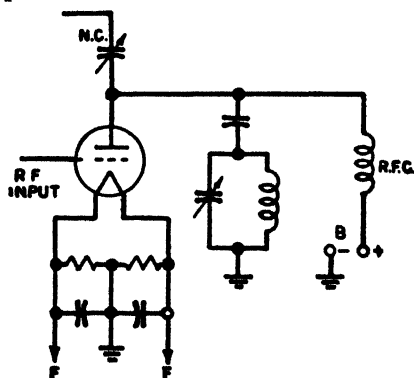

FIG. 4-20.—Simple shunt-fed plate arrangement.
**Ans.** Figure 4-20 illustrates a simple shunt-fed plate radio-frequency amplifier.